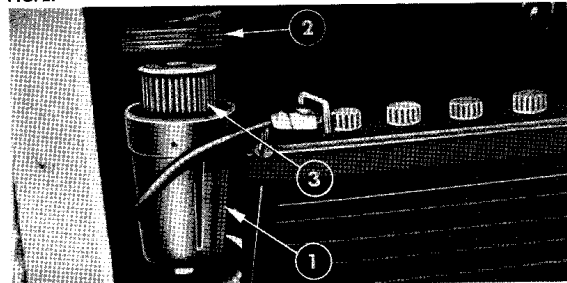

FIG. 22
1. Fig. 22. Unscrew the filter bowl (1) from the filter head (2).
2. Withdraw and discard the used element (3).